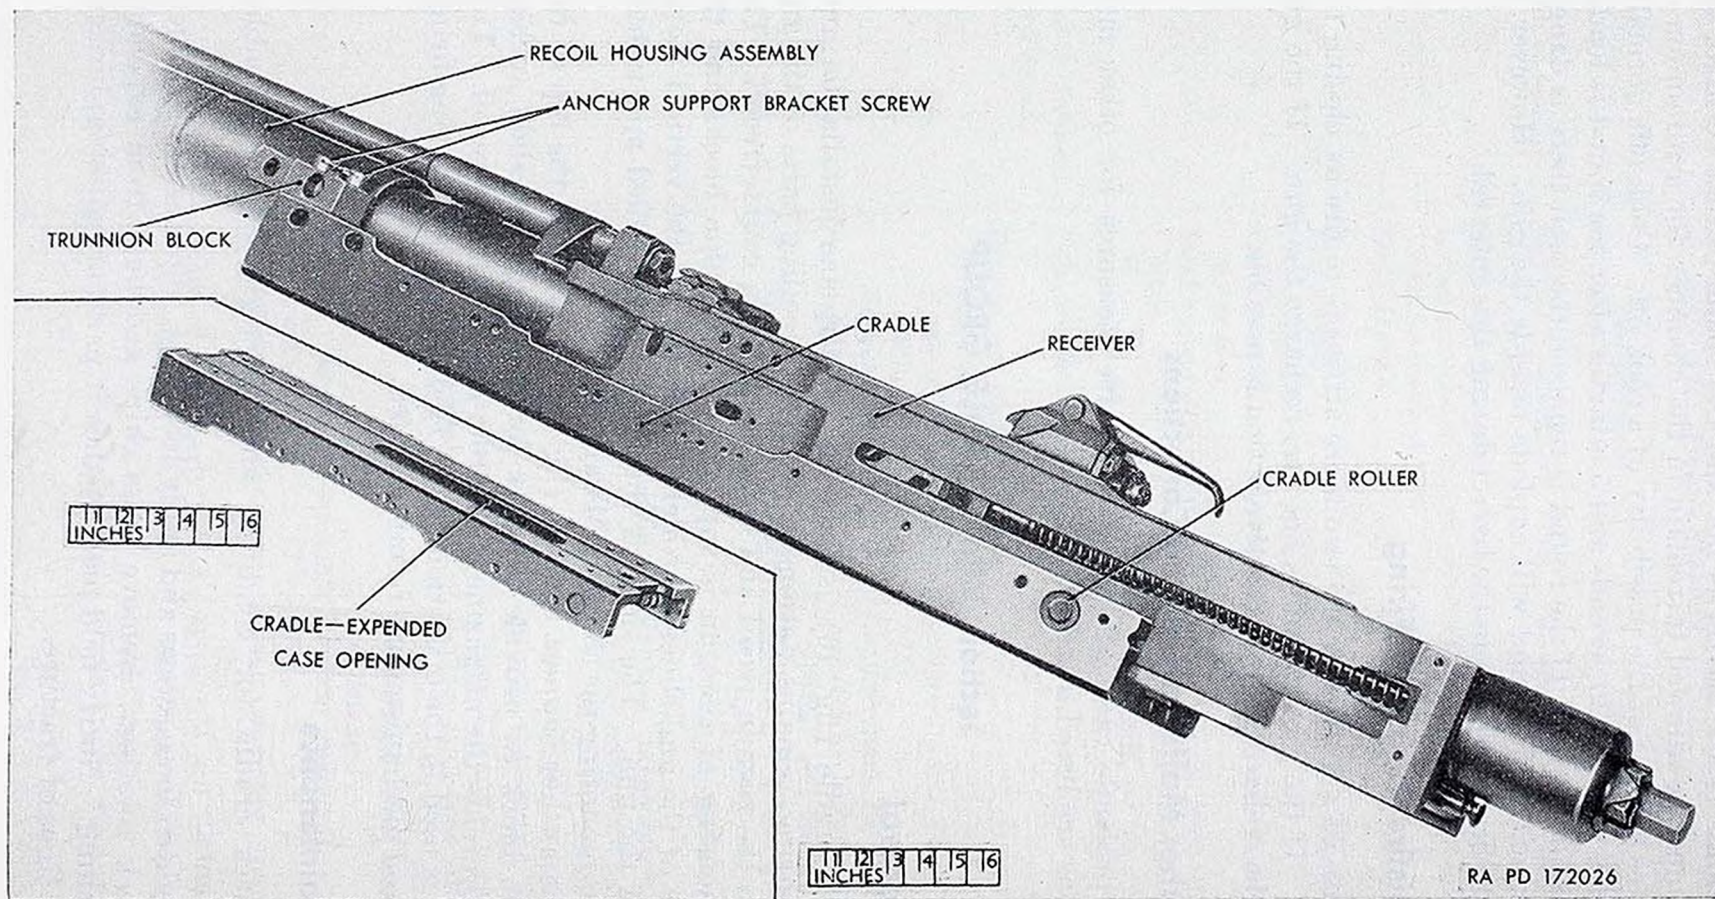

Figure 76. Cradle assembled to gun and view of bottom of cradle.
a. The cradle (fig. 76) is fixed in the airplane installation and, during firing, remains stationary while the recoiling parts of the gun move to the rear in recoil and come forward in counterrecoil. The recoil housing of the gun is supported on trunnion blocks and the receiver of the gun slides on rollers which control the vertical movement of the gun. The sides of the cradle have drilled and tapped holes for mounting the chargers M4 and M6.